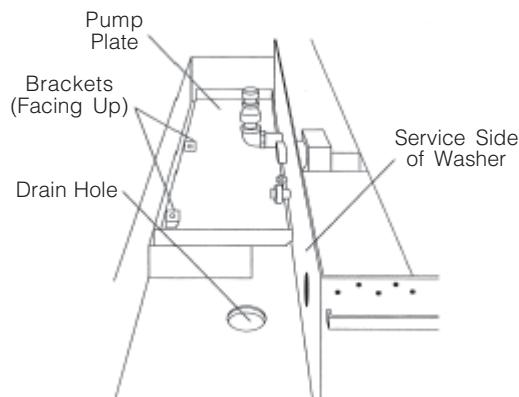

Figure 3-6. Install Pump Plate
- 7. Attach pump plate to service side of washer (see Figure 3-6). Ensure brackets are facing up and plate does not cover drain hole.